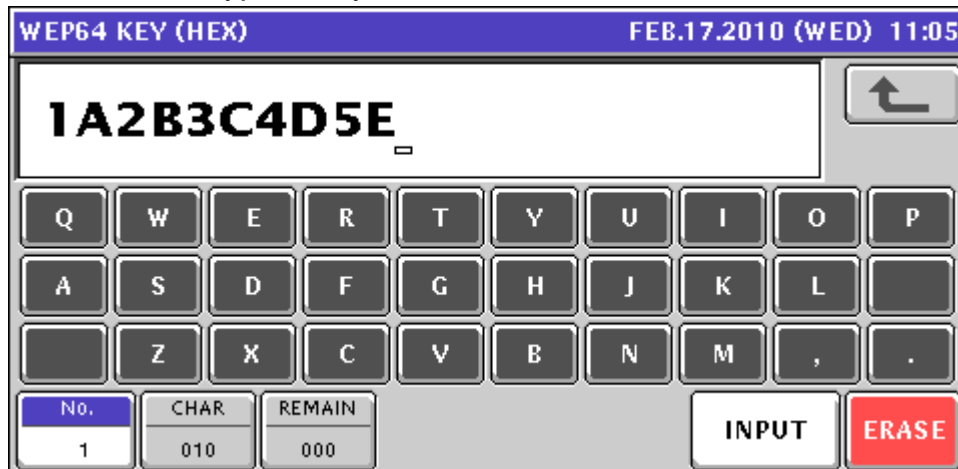

Figure 66. Enter the Appropriate Encryption Key (Case Sensitive)
- o. Enter the appropriate encryption key value. See Figure 66.